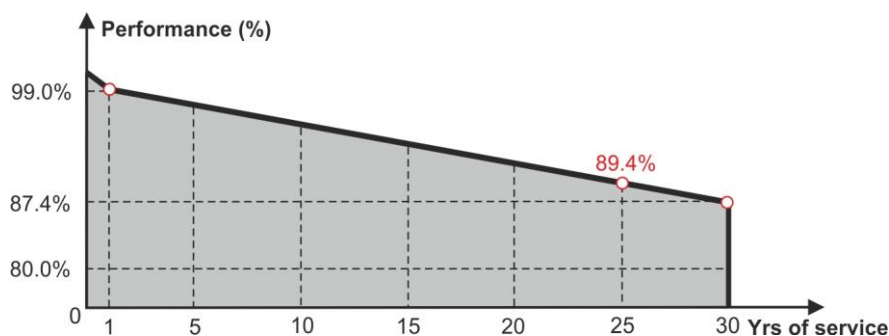

Fig. 23: Example of the Years/Performance curve of a PV module
- On the basis of these values, the instrument automatically calculates the Years/Performance curve (see Fig. 23) from which to derive the performance loss control value % used to calculate the I-V curve (see § 6.4.4)